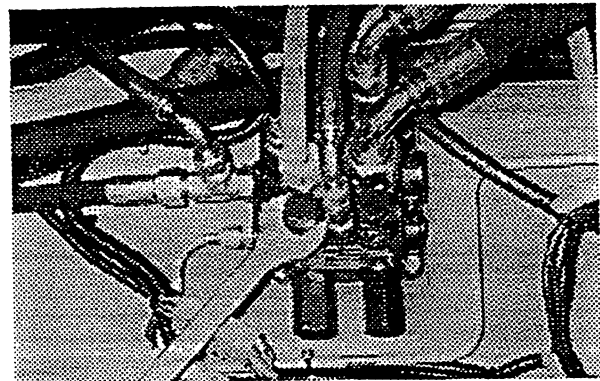

Fig. 2/3
- unscrew valve protection nut with a 24 mm wrench (see Fig. 2/3)
- fit protection nut again (Fig. 2/3)